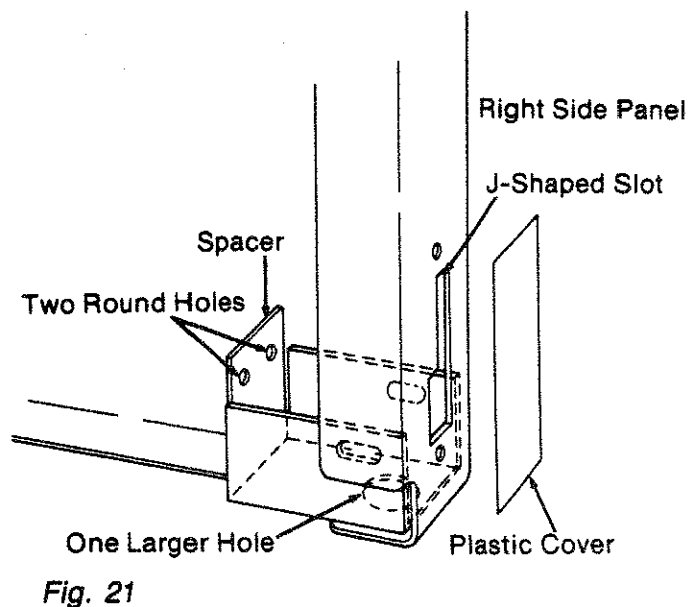

Fig. 21
10. Put the *casters (wheels)* on the *shelf* and *corner brackets*. Since the *shelf* is upside down, the *wheels* will point up. Line up four holes in each of the two rear corners as illustrated. (Figure 21 - Below)
14. Put a *spacer* inside the *right side panel* as shown. The side of the *spacer* with two round holes should be opposite the J-shaped slot in the *side panel*, and the side with one larger hole should be on the bottom. (Figure 21)
17. Put a *plastic cover* over the J-shaped slot in the *side panel*. (Figure 21)